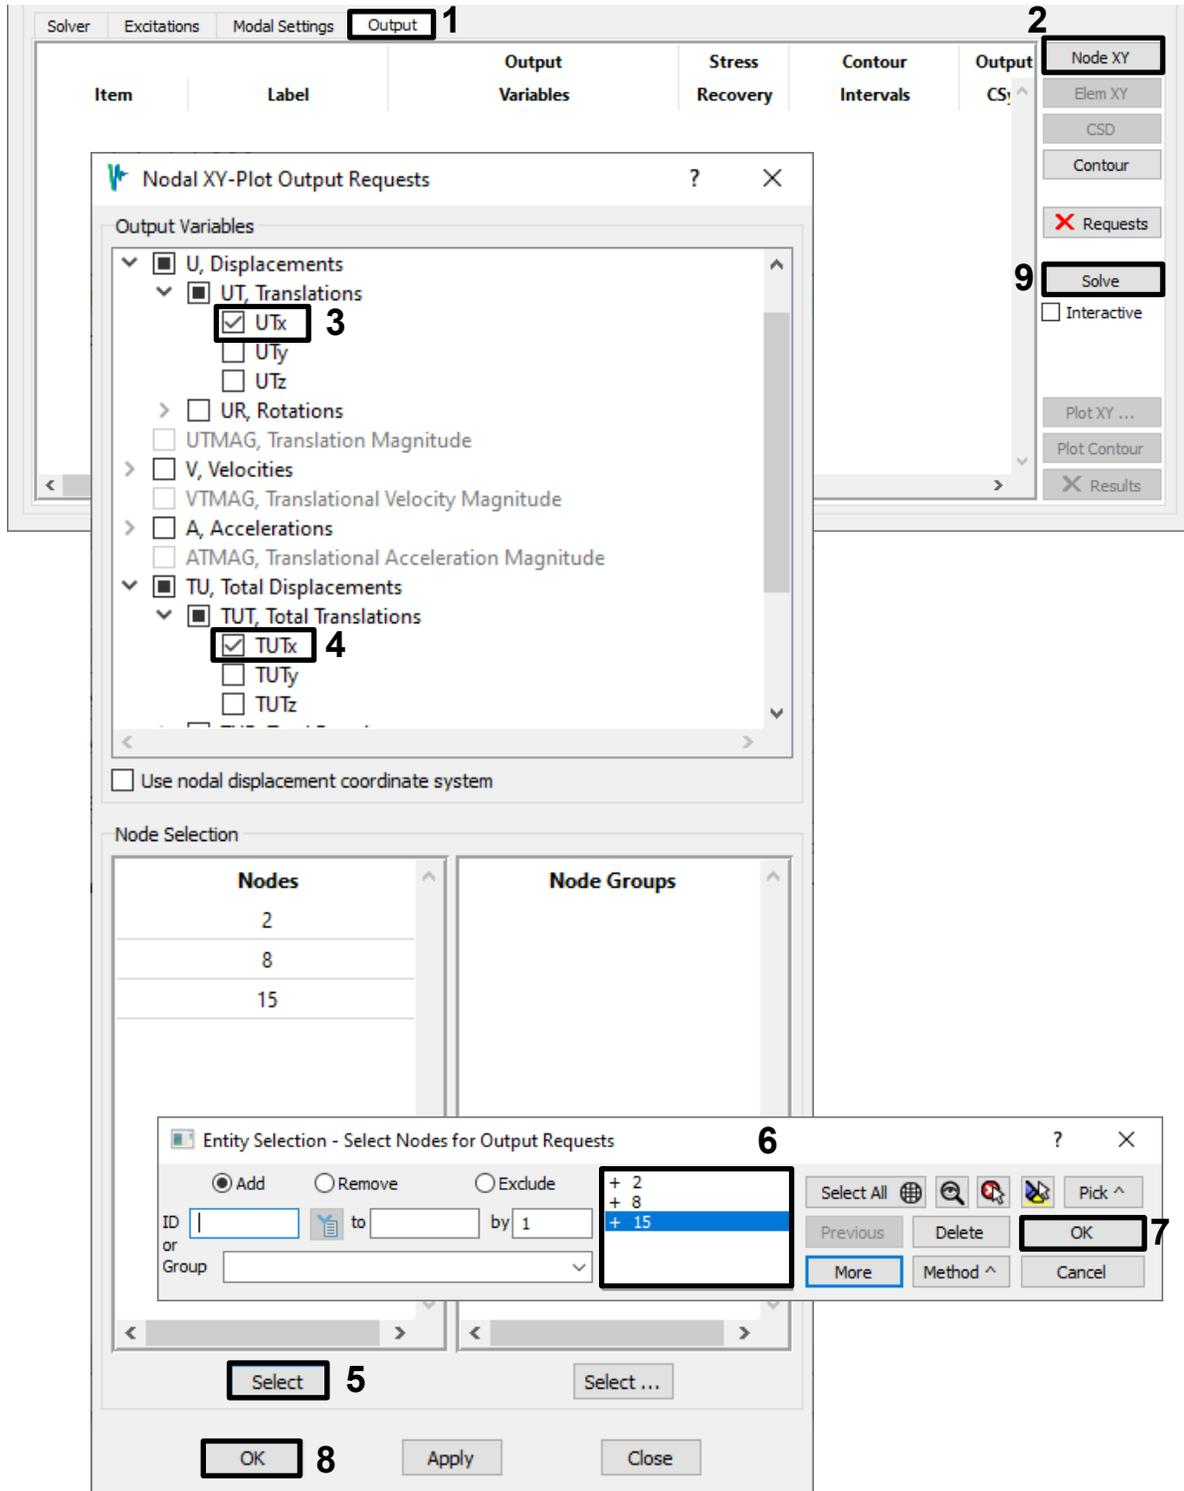

Figure 4-32. Request both flexible and total nodal X-translation plots.
- On the *Output* tab, create a Node XY output request for flexible and total X-translations (*UTx* and *TUTx*) for the center base (node 2), center second floor (node 8) and upper right corner (node 15), as shown in Figure 4-32.